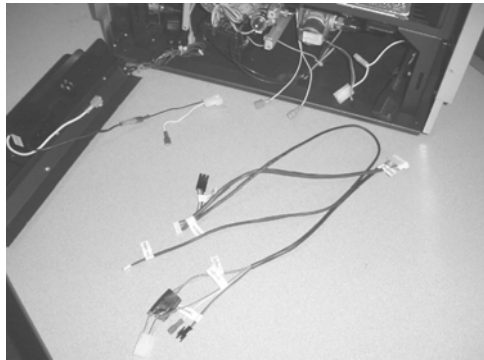

Figure 13
- 12 Place the GreenSmart wiring harness in front of the fireplace, noting the position of each connector (see .Figure 13).